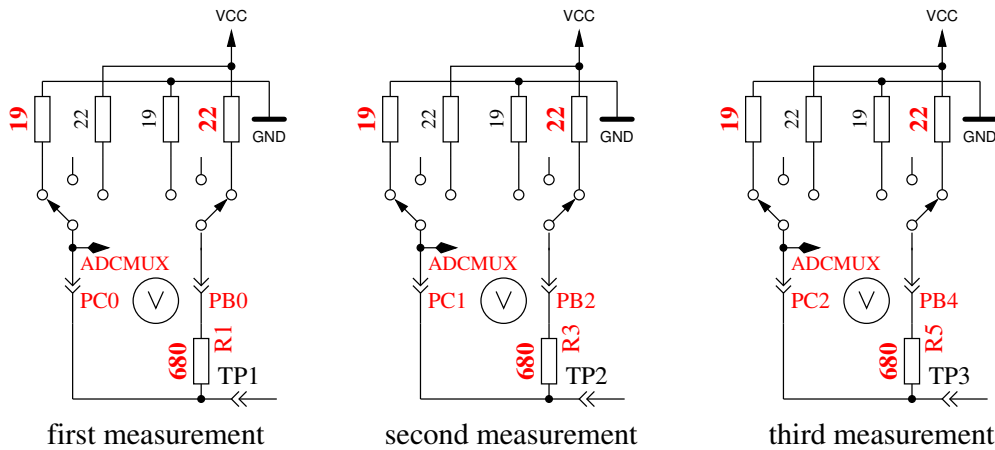

Figure 5.47: Measurement of internal resistance of Port C switched to GND
5. **This step tests the capability of GND (-) connected 470kΩ resistors (H) to pull the test pins to GND.** Row 1 shows the text “RH-”. Row 2 should display zero for all three pins.
6. **This step tests the capability of VCC (+) connected 470kΩ resistors (H) to pull the test pins to VCC (+).** Row 1 shows the text “RH+”. The results are shown als difference to VCC and should be near zero. Great differences from the best value for test 5 and 6 are errors such as isolation problem, flux material or damaged port.
8. **Measuring of internal resistance of pin output switched to the GND signal.** This test and the follwing tests will only be done, if the option AUTO\_CAL is selected. The internal resistance of the port C outputs switched to GND (-) are measured with the current of to VCC (+) switched 680Ω resistors, see Figure 5.47. Only the three pins of the ADC port are measured, the resistor port B (PB0,PB2 and PB4) can not be measured without hardware modification. Is is assumed that the port resistance of the different ports are nearly identical. The resistor value will be shown in the next test.